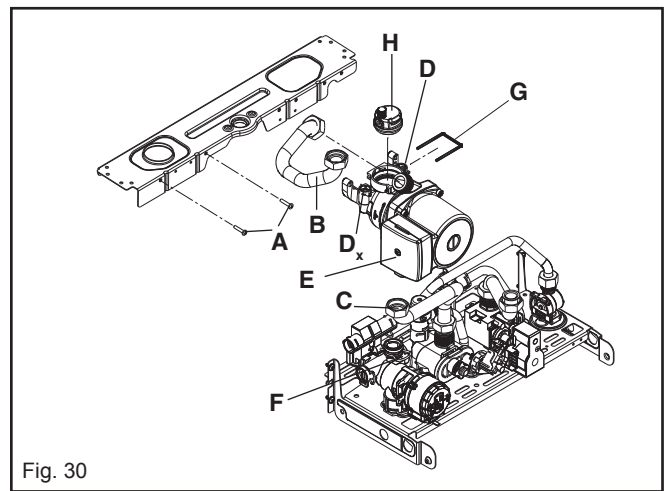

Fig. 30
6.5 PUMP ASSEMBLY (fig. 30)
6.7 LOWER AUTOMATIC AIR RELEASE VALVE (fig. 30)